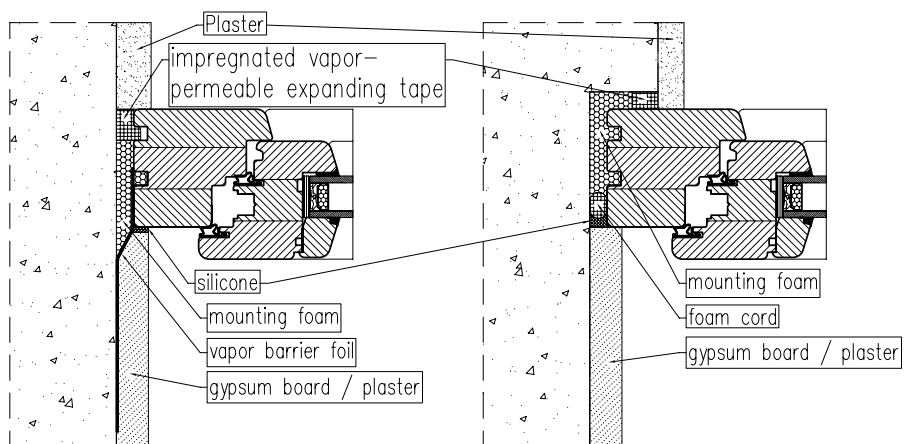

Fig. 5. Sealing of gaps between window without recess and with recess in solid wall reveal
- for openings without reveals: apply the tape to the outer edge of the frame at the top and sides so that it seals the space between the frame and the wall (see Fig. 5, p. 9).
- for openings with reveals: apply the tape to the edge of the reveal so that it seals the space between the frame and the reveal without protruding into the visible opening (see Fig. 5, p. 9).
15. Seal the interior joint around the entire perimeter using vapor-tight foil or silicone (see Fig. 5, p. 9).
To shape the joint properly and reduce silicone usage, a foam backer rod may be used (see Fig. 5, p. 9).
- b) on the interior (foam, vapor-tight foil, or silicone): plaster, cover with gypsum board or plaster (see Fig. 5, p. 9).